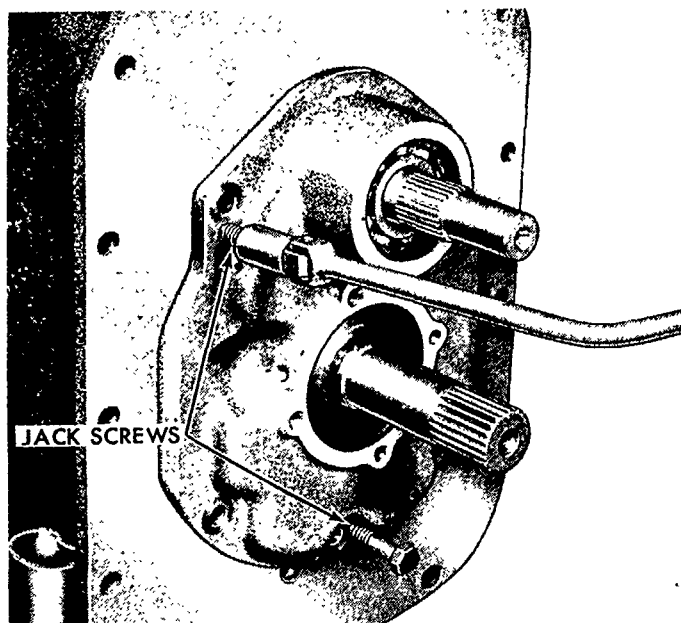

Figure 67
3. Remove the five rear support attaching bolts and install two of the attaching bolts as jack screws in the rear support to separate the support from the case. See Figure 67.